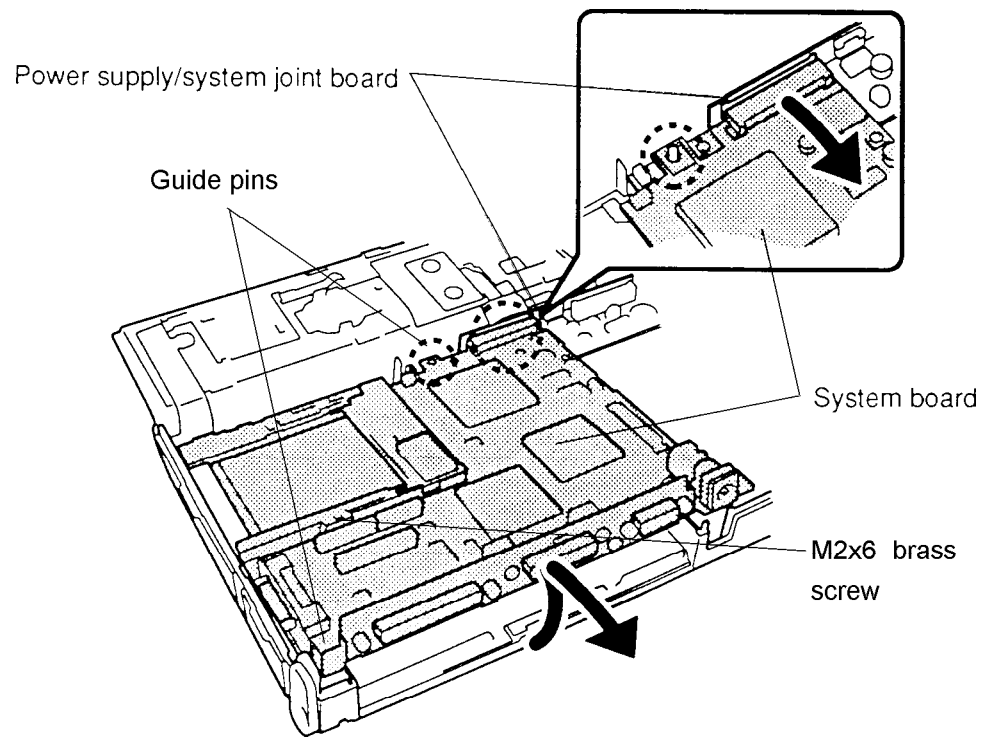

Figure 4-16 Removing the System Board
To remove the system board, follow the steps below and refer to Figure 4-16.
3. Lift up the back (connector) side of the system board slightly (Figure 4-16).
5. Hold down the **power supply/system joint board** with your thumb and pull the **system board** to disconnect it from the **power supply/system joint board** (Figure 4-16).
6. Lift out the **system board** (Figure 4-16).
To install the system board, follow the steps below and refer to Figure 4-16.
1. Connect the **system board** to the **power supply/system joint board** (Figure 4-16).
2. Seat the **system board** into the bottom cover (Figure 4-16).